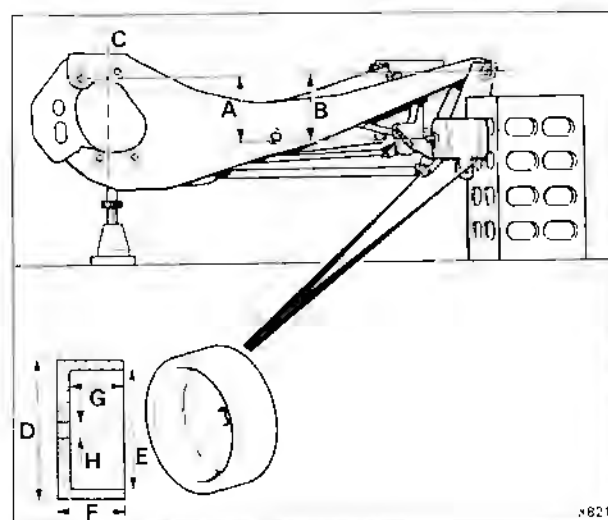

Fig. H11-2 Camber and toe-in setting
1. Mount the rear crossmember and trailing arms on a surface table as shown in figures H11-2 and H11-3.
using small screw jacks situated beneath the trailing arms (see fig. H11-2).
1. With the crossmember and trailing arm assembly mounted on a surface table as shown in figures H11-2